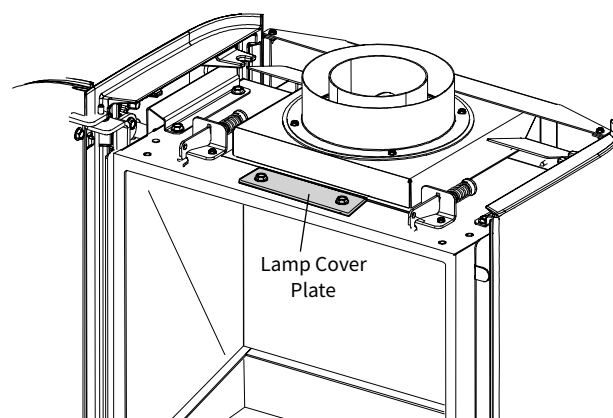
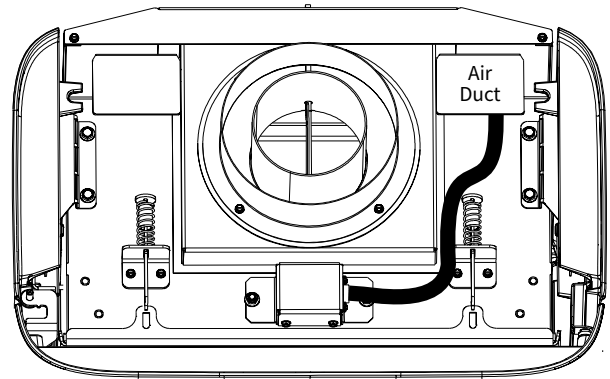
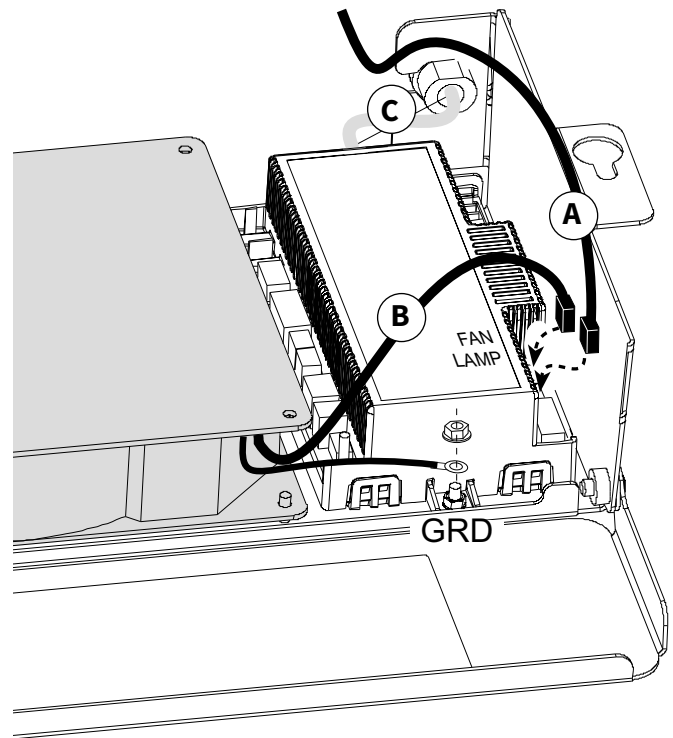

Figure 11.4. Remove the Lamp Cover Plate.
Figure 11.5. Accent Lamp Harness routing.
Figure 11.7. Blower & Lamp Terminal Connections.
2. Refer to figs. 11.4 and 11.4a. Remove the two M8 hex head bolts (A), nuts (B), and steel Lamp Cover Plate from the firebox top using a 10 mm socket wrench. Discard the cover plate.
3. Install the Gasket, Lens, and Lamp Box over the opening on the firebox using the two bolts (A) previously removed.
5. Route the lamp wire harness over and down through the right rear Air Duct as shown in Fig. 11.5. Connect the harness (A) to the terminal labelled "Lamp" on the right side of the IFC board. See fig. 11.7 on page 22.
2. Connect the blower power lead (B) to the IFC board terminal labelled "FAN". See Fig. 11.7.
3. Connect the blower ground lead to the ground terminal at the front of the IFC using the nut provided on the board. Fig. 11.7.